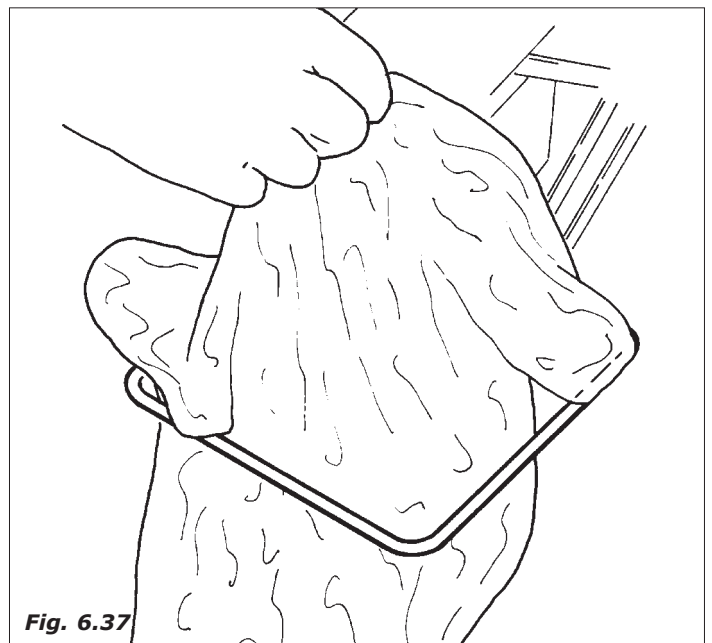

Fig. 6.37
- remove the supporting ring from its seat (Fig. 6.37)